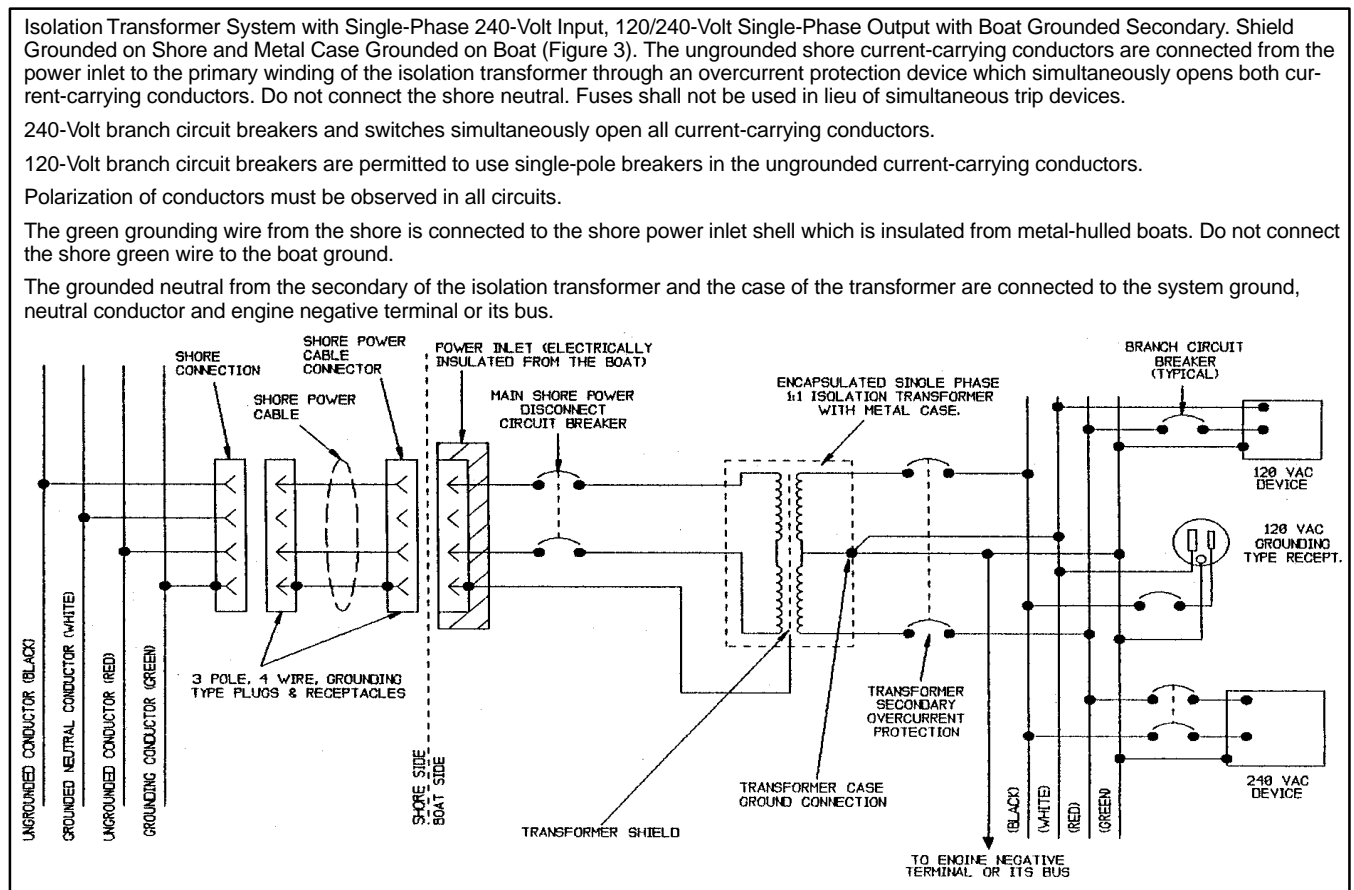
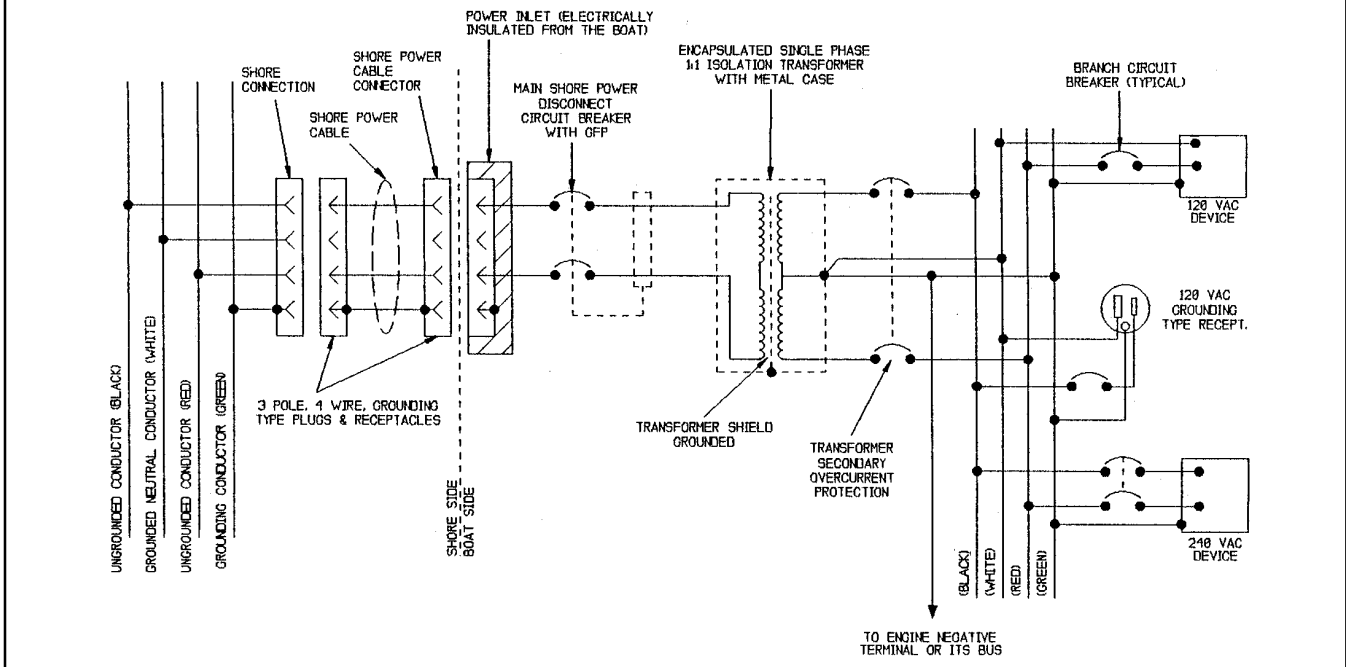

Figure 3. Electrical Diagram – Method 1
Figure 4. Electrical Diagram – Method 2
There are two wiring methods that are acceptable for installation of the PM3-100™ as an isolation transformer in accordance with the American Boat and Yacht Council (ABYC) *Alternating Current (AC) Electrical Systems on Boats* standard. See Figure 3 and Figure 4.
Note: Figure 3 and Figure 4 are reprinted with permission from the American Boat and Yacht Council (ABYC). To obtain the complete standard referenced or any other standards contact the ABYC.
Isolation Transformer System with Single-Phase 240-Volt Input, 120/240-Volt Single-Phase Output, Ground Fault Protection and a Grounded Secondary. Shield and Metal Case Grounded on Boat (Figure 4) – The ungrounded shore current-carrying conductors are connected from the power inlet to the primary winding of the isolation transformer through a ground fault protection device which simultaneously opens both current-carrying shore conductors. Fuses shall not be used in lieu of simultaneous trip devices.